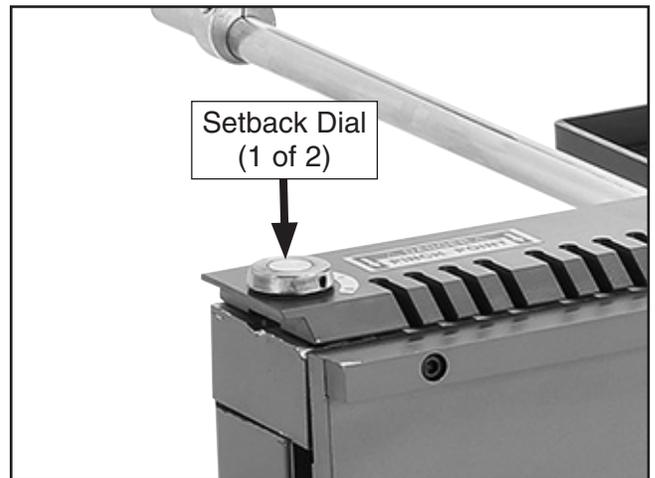

Figure 38. Location of setback dials.
2. Turn setback dials the same amount to adjust leaf to desired setback (see **Figure 38**).